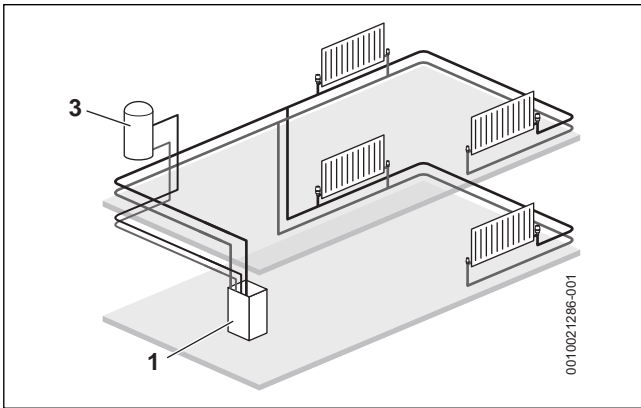

Fig. 9 Example layout - Internal diverter valve kit
i In all cases the cylinder manufacturer must be contacted for confirmation their product is suitable for the installation layout shown in figure 9.
- The general layout (figure 9) can be used for unvented cylinder by utilising the high limit thermal cut out of the cylinder dual-thermostat to interrupt the permanent live to the appliance, preventing any heat being produced from the appliance.